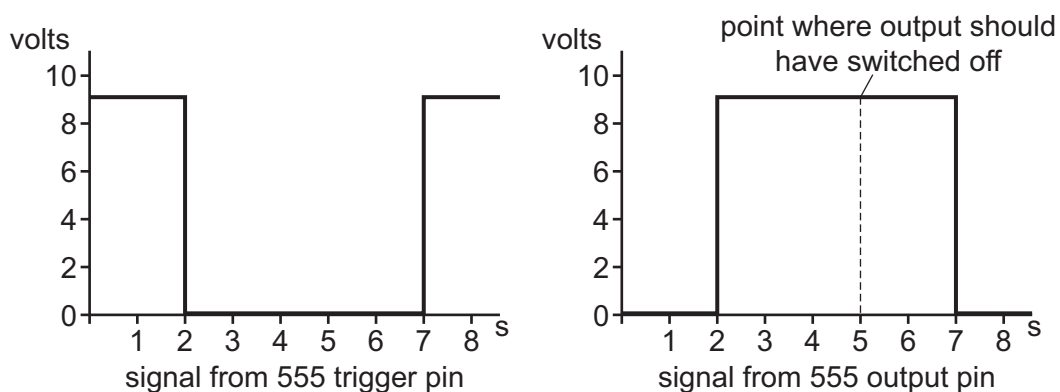

Fig. 11.2
- (b) Fig. 11.2 shows two signals from a 555 timer IC circuit.
- (i) From the list below circle the type of circuit that will produce the signal from the 555 output pin in Fig. 11.2.
- (ii) Describe the signal from the 555 trigger pin shown in Fig. 11.2.
- (iv) Explain why the output pulse in Fig. 11.2 has continued beyond the point where it should have switched off.